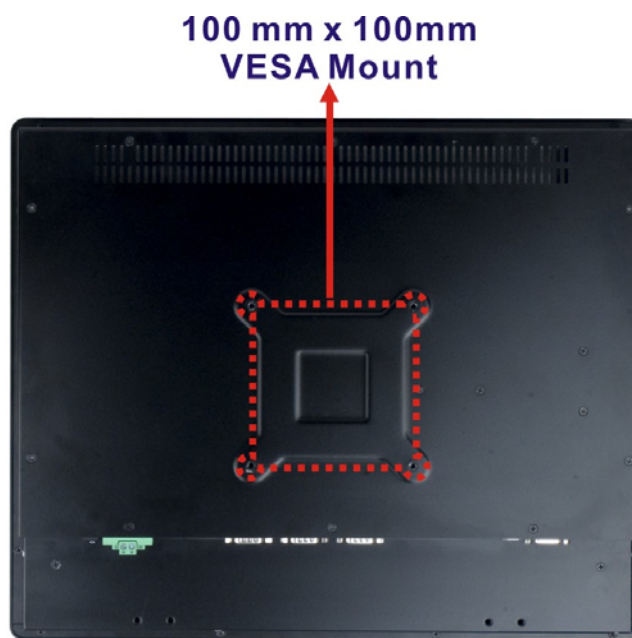

Figure 3-26: Arm Mounting Retention Screw Holes
Step 3: Align the retention screw holes on the mounting arm interface with those in the PPC-F12B/15B/17B-BTi panel PC. The arm mounting retention screw holes of the PPC-F12B/15B/17B-BTi panel PC are shown in **Figure 3-26**.